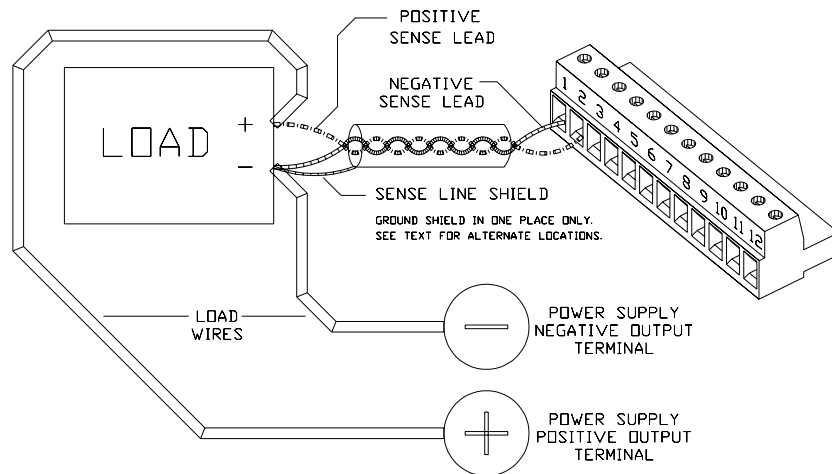

Figure 2.10 Connecting Remote Sense Lines
4. To prevent ground loops, ground the sense line shield, at one point only, to the power supply's return output connection at the load, to the power supply's return output at its output terminal, or to the power supply's chassis. See Figure 2.10 for an example.